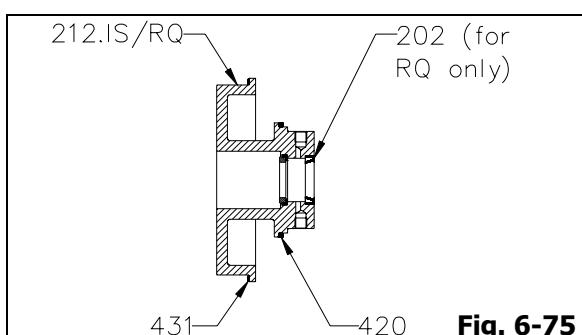

Fig. 6-75
- Install stuffing box cover "O" ring (420) and stuffing box cover gasket (431) onto stuffing box cover (212.IS/RQ).
- For single internal with rear quenching, install v-seal (202) into stuffing box cover (212.RQ) (Fig. 6-75).